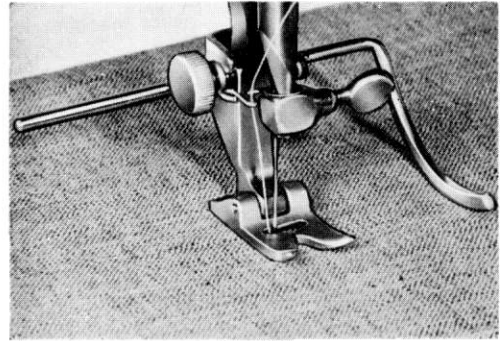

Fig. 33
The quilter (Fig. 33) will enable you to sew equidistant lines on padded fabrics without the necessity of marking them in advance.
3. Sew with the quilter width guide following the previous stitches as in Fig. 33.